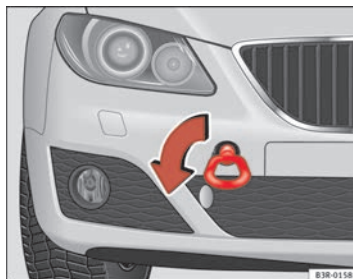

Fig. 231 Fitting the towing eye to front rear of the vehicle
- Bolt the eye to its limit to the *left*, in the direction of the arrow ⇒ fig. 231 ■